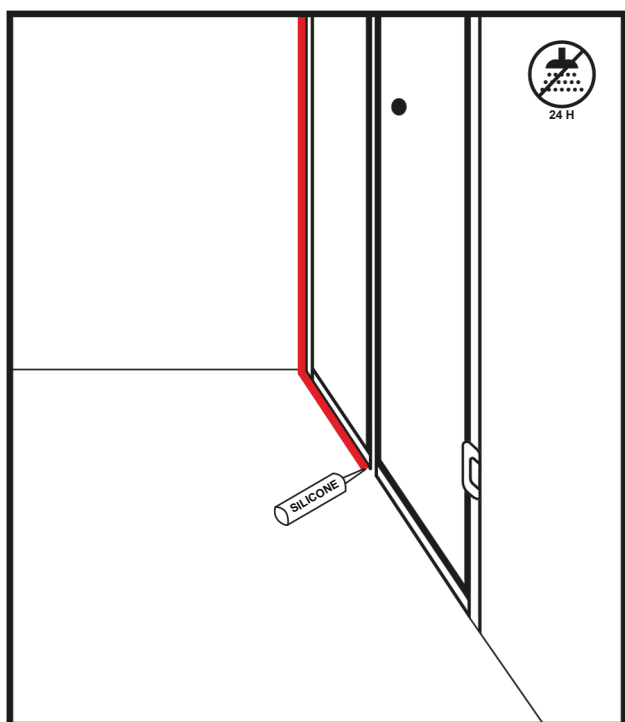
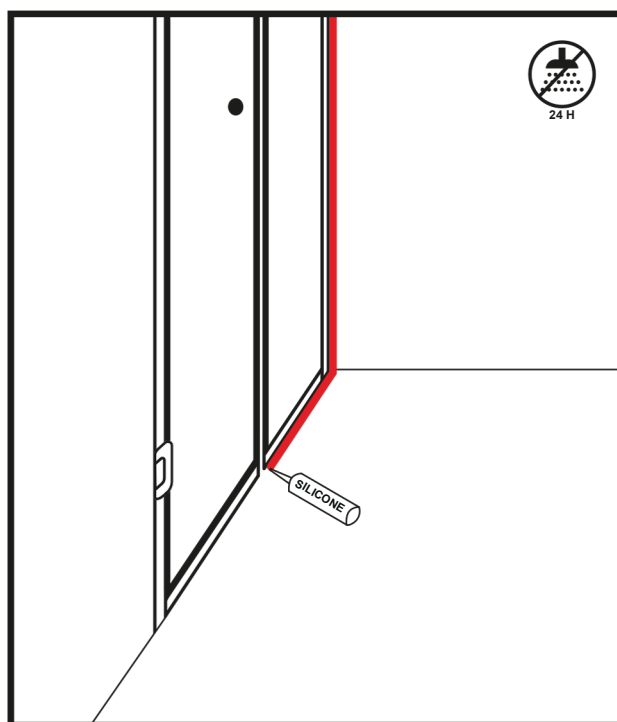

Figure 15
Figure 16
41. Apply an even silicone strip to the edges of the U-shaped strip on the inside (Figure 15) and outside (Figure 16) of the stationary glass.